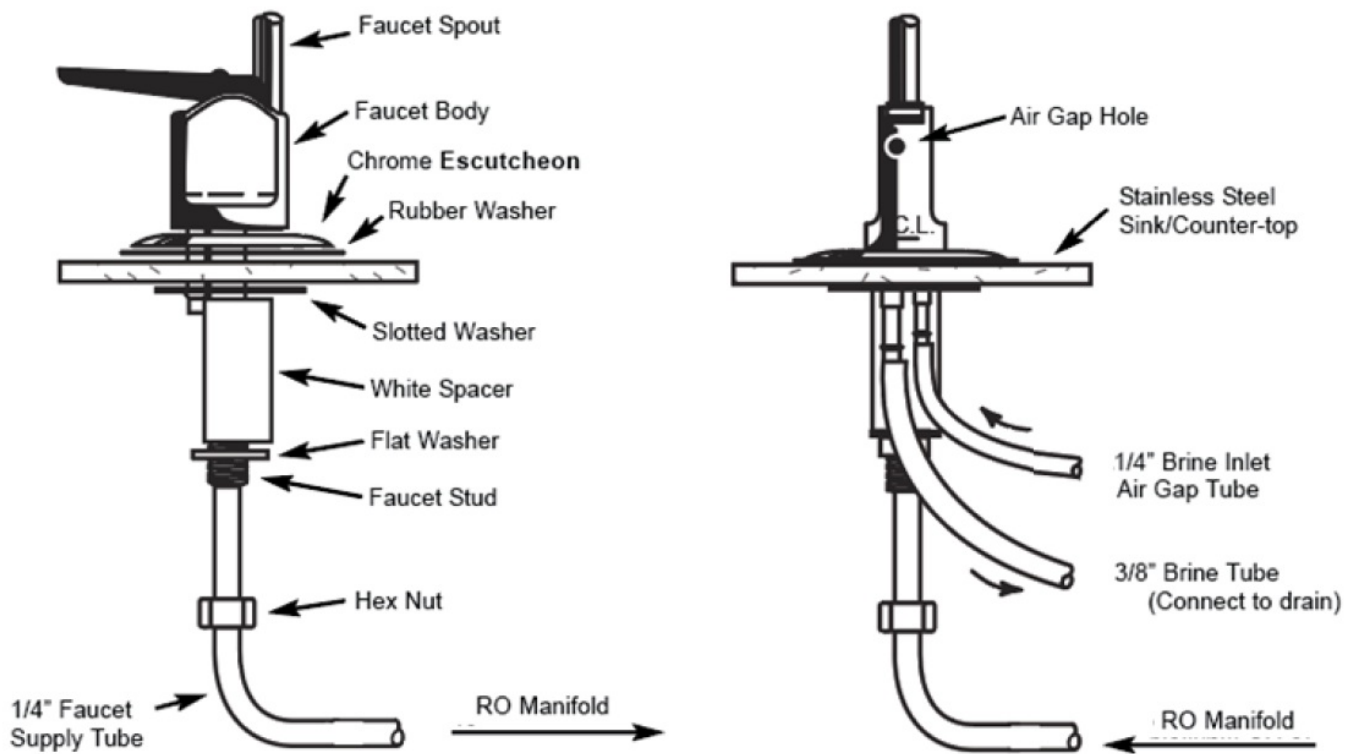

Figure 2
- Review components shown in Air Gap Faucet diagram (Figure 2).